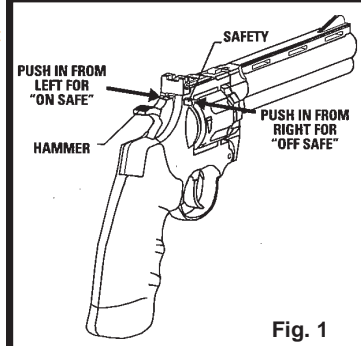

Fig. 1
- Locate the safety below the rear sight. (Fig. 1) Pull the hammer back slightly and with your other hand, push the safety from the left side all the way in. The safety is not "On Safe" unless it is pushed all the way in and the RED mark on the left side of the safety is NOT showing.